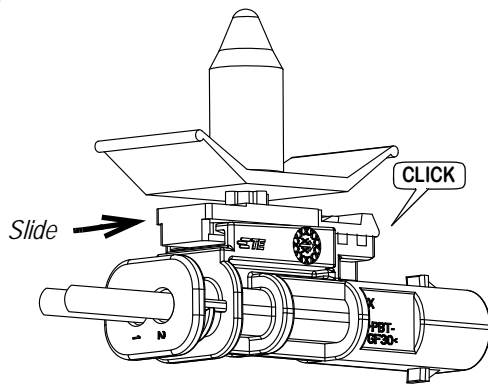

Figure 4
1. Align the latch of the mounting clip with the opening of the connector mounting clip holder as shown in Figure 4, Detail A.
2. Slide the mounting clip into the mounting clip holder until the latches engage and there is an audible “click”. See Figure 4, Detail B.